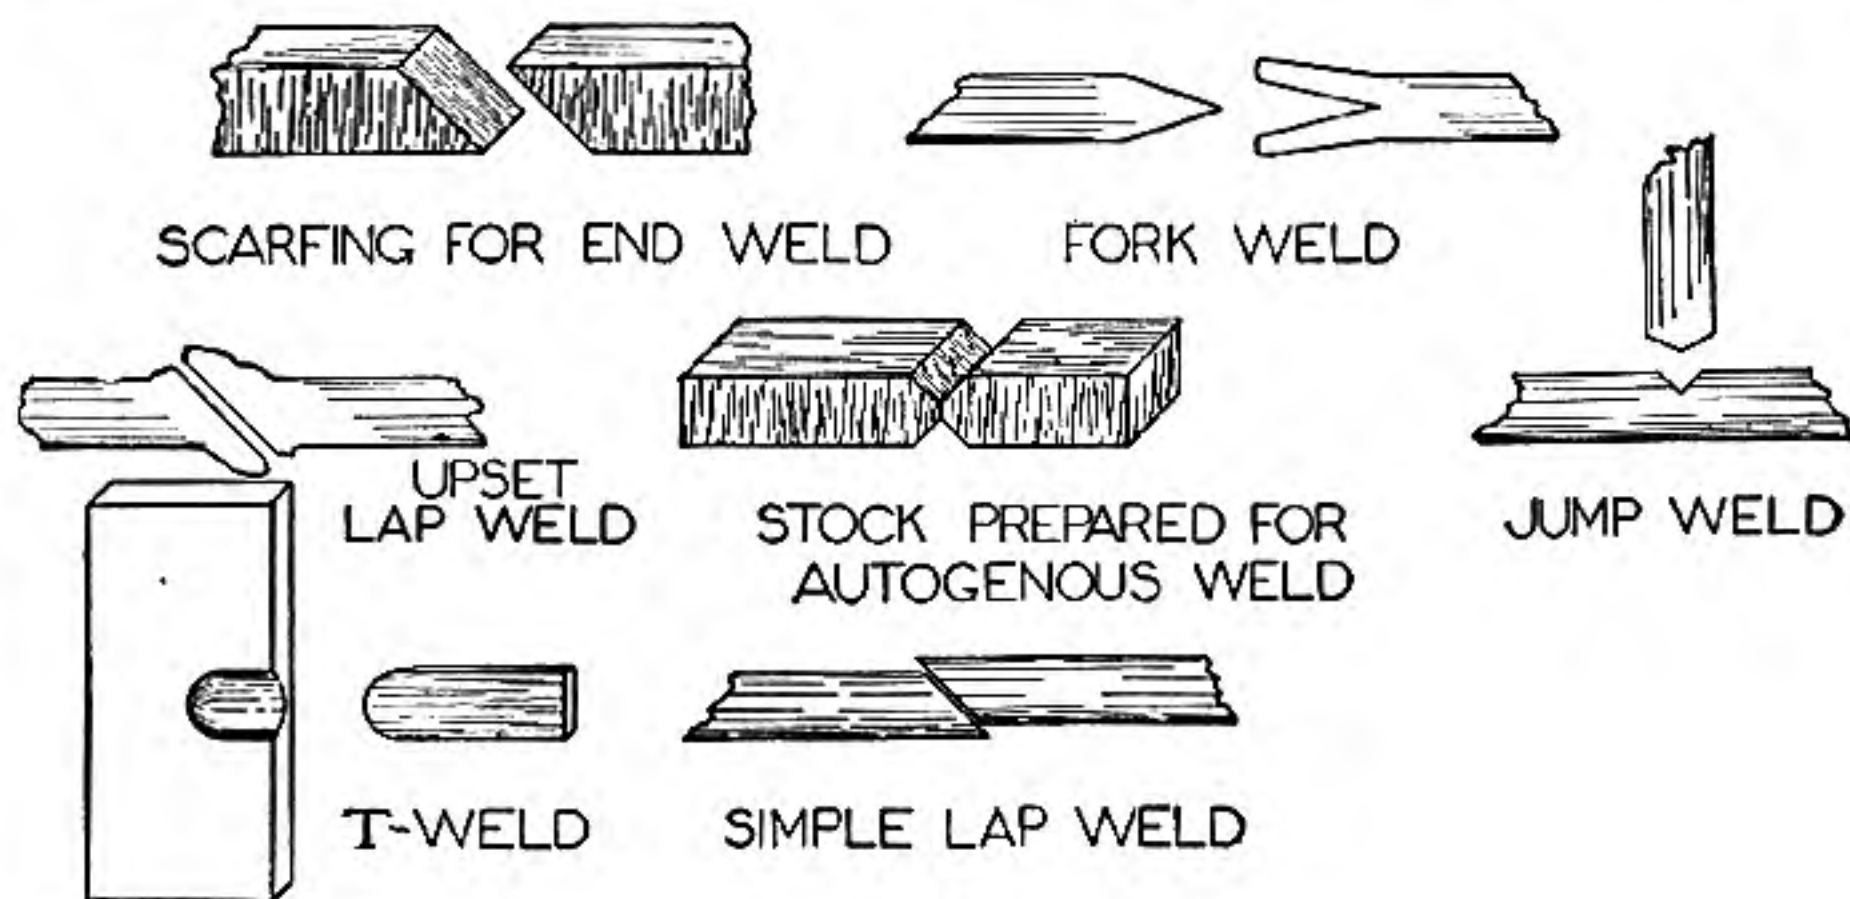

Fig. 124
**Classes of Welds**—Welds are classified by the way in which contact points are formed prior to making the weld. The welds ordinarily made in hand-forging practise are the scarf weld, butt weld, lap weld, cleft or split weld, and jump weld. They are shown in Figure 124. It will be seen that the